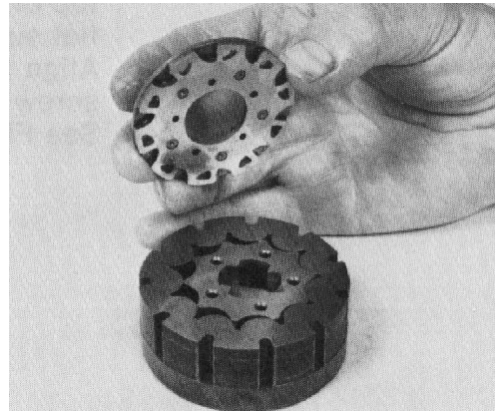

Figure 75
13. Put the commutator on top of the rotor. Be sure the correct surface (Fig. 75) is towards the rotor.